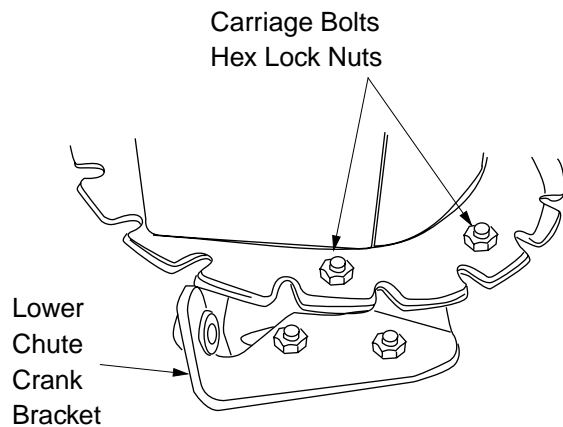

Figure 12
1. Loosen the two hex nuts which secure the chute crank support bracket (see Figure 12) to the snow thrower housing.